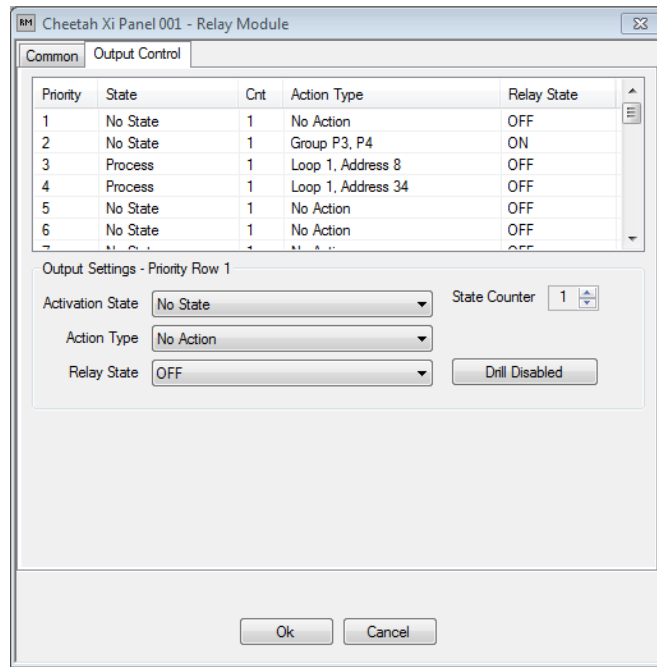

Figure 7 - Relay Module Configured for “Purge” Operation
5. Select the **Output Control** configuration tab (See Figure 7).